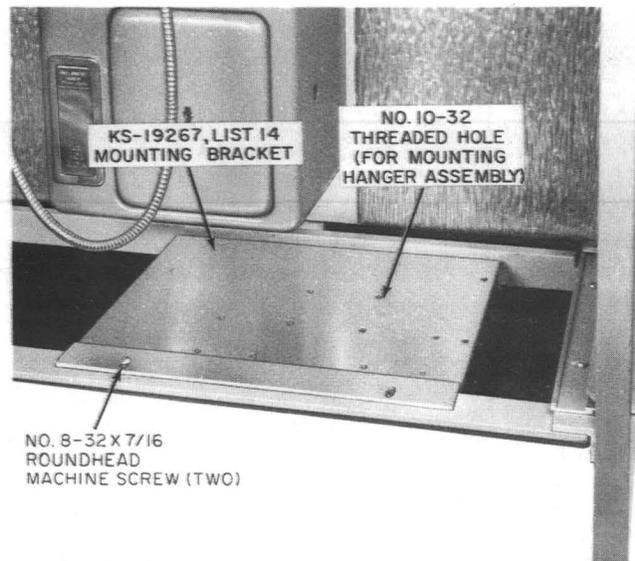

Fig. 19—Locating KS-19267, List 14 Mounting Bracket
(3) Mount KS-19267, List 14 mounting bracket (Fig. 19) temporarily and secure it at the front with one No. 8-32 by 7/16 roundhead machine screw.